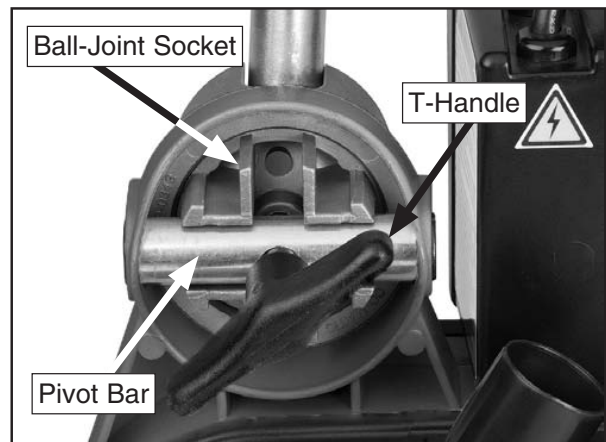

Figure 8. Assembled ball joint assembly.
6. Align the ball-joint socket with the power feeder socket and insert the pivot bar, as shown in **Figure 8**.
8. Thread the T-handle through the pivot bar so the end of the T-handle bolt presses against the ball-joint socket firmly (see **Figure 8**).